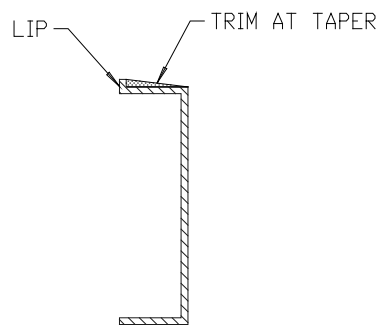

FIG. 2
5. Upon cure of the sealant trim exposed end with razor type blade (See Fig 2) make smooth transition from gasket to the frame.